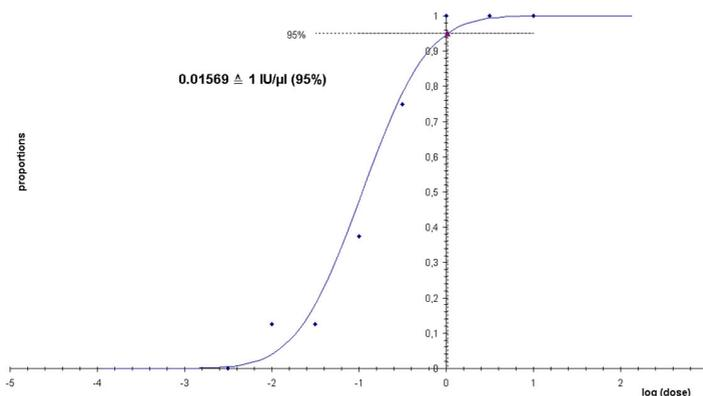

Fig. 8: Analytical sensitivity of the *artus* Parvo B19 LC PCR Kit.
0.03 Parvo B19 IU*/ μ l and analyzed with the *artus* Parvo B19 LC PCR Kit. Testing was carried out on three different days on eight replicates. The results were determined by a probit analysis. A graphical illustration of the probit analysis is shown in Fig. 8. The analytical detection limit of the *artus* Parvo B19 LC PCR Kit is 1 IU/ μ l ($p = 0.05$). This means that there is a 95 % probability that 1 IU/ μ l will be detected.